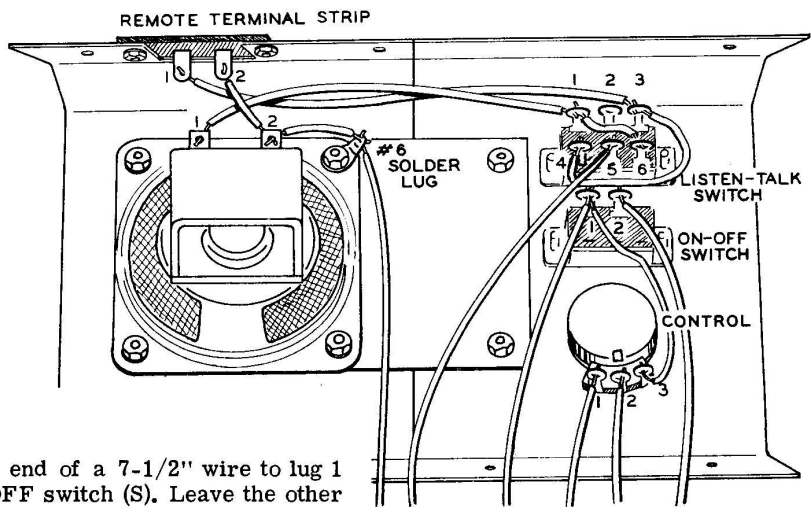

Figure 10H
Refer to Figure 10H for the following steps. Route each of the following hookup wires as shown.
- ( ) Remove the volume control knob from the shaft and remove the 100 K $\Omega$  volume control from the front panel. Save the hardware. Install the 5000  $\Omega$  volume control and position it as the 100 K $\Omega$  control was. See Figure 10H. Reinstall the volume control knob.
- ( ) Connect a 6" wire from lug 1 of the remote terminal strip (S) to lug 3 of the LISTEN-TALK switch (NS).
- ( ) Connect a 2-3/4" wire from lug 3 (S) to lug 4 (S) of the LISTEN-TALK switch.
- ( ) Connect a 1" wire from lug 6 (S) to lug 1 (NS) of the LISTEN-TALK switch. Bend the lugs of this switch outward slightly, if necessary, to keep this wire from touching other wires or lugs.
- ( ) Connect a 5" wire from lug 1 of the LISTEN-TALK switch (S) to lug 1 of the speaker (S).
- ( ) Connect a 1" wire from lug 2 of the remote terminal strip (S) to lug 2 of the speaker (NS).
- ( ) Connect a 1-1/2" wire from lug 2 of the speaker (S) to the #6 solder lug (NS).
- ( ) Connect one end of a 6-1/2" wire to the solder lug (S). Leave the other end free.
- ( ) Connect a 2-1/2" wire from lug 3 of the VOLUME control (S) to lug 1 of the ON-OFF switch (NS).